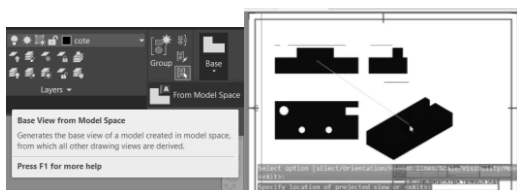

Figure 11 The positioning of the 4 main views of the object
- **Step 5:** Next is “Base view from model space” selection, from the right corner of the screen, in the same place as the Drafting Standard window. In this step, the main 4 views of the object are positioned on the paper, the Front view, the Left-hand side view, the view from Above and the axonometric view of the object (Figure 11).